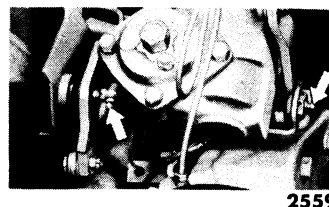

Fig. 3—Clutch Release Equalizer Bar
(5) **CLUTCH RELEASE EQUALIZER BAR.** Apply pressure gun grease at the two fittings (fig. 3).